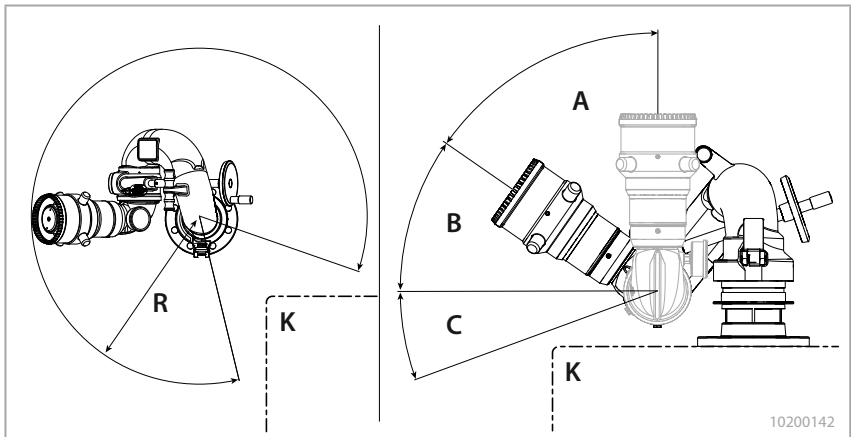

Fig. 5 Space requirements of TerraStream 3
The radius of the swivel range (Fig. 5/R) depends on the nozzle used and the planned vertical path, as well as any interfering contours (Fig. 5/K).
- There may be no interfering contours in the entire swivel range of the TerraStream 3 system, both in the minimum and maximum elevation angle (Fig. 5/A or B or C).